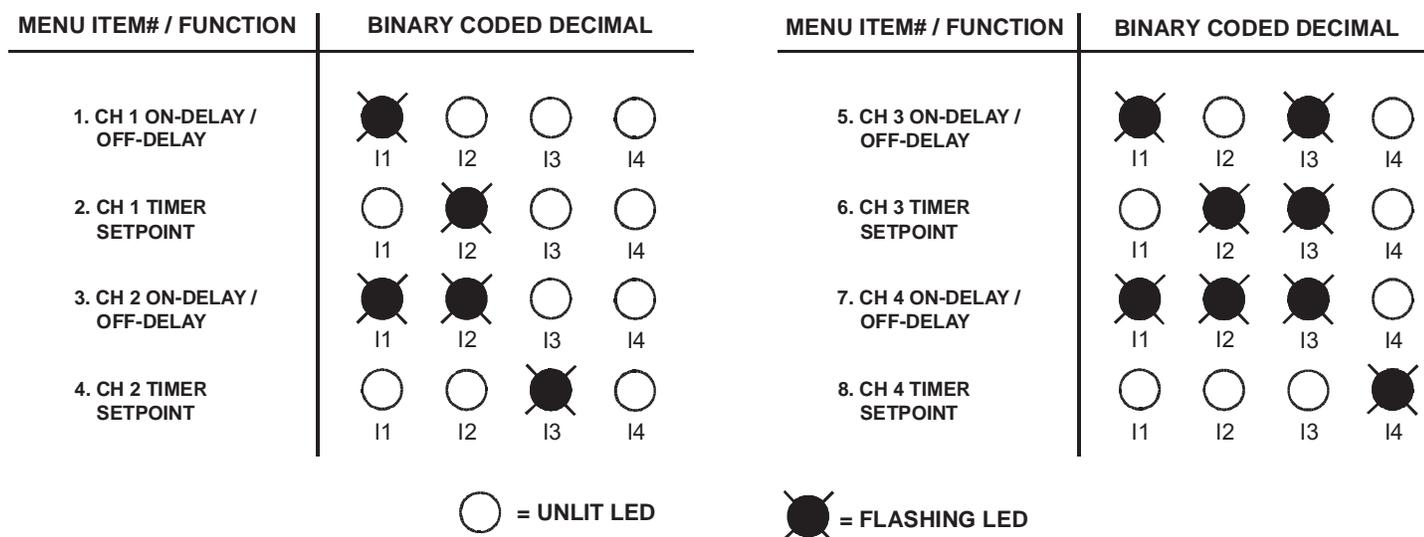

Figure 2.6 - LED Indicator Binary Coded Decimal
To be able to configure the module channels, you must first understand the configuration menu. Pressing the B1 button will enter the configuration menu. Indicators I1 - I4 will indicate which menu item is currently being viewed/modified. The menu number is displayed on these indicators using Binary Coded Decimal (BCD). When in the configuration Menu, the indicator(s) will flash this BCD. Figure 2.6 illustrates BCD and its corresponding menu item. Please note, for illustration purposes, the I1-I4 indicators are shown on-steady, but in reality they will be flashing.
- Using the B1 button, cycle through the configuration menu until the desired menu item is displayed (1, 3, 5, 7 depending upon channel). Refer to Figure 2.6 for menu items. Verify the correct menu item per the indicator LEDs.
- Using the B1 button, cycle through the configuration menu until the desired menu item is displayed (2, 4, 6, 8 depending upon channel). Refer to Figure 2.6 for menu items. Verify the correct menu item per the indicator LEDs.